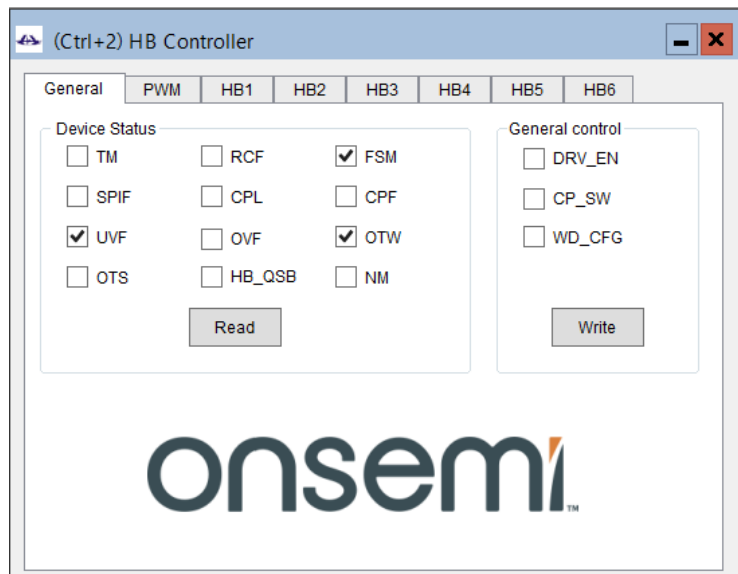

Figure 10. NCV7546 Controller Framework, HB Controller
13. "HB Controller" (Figure 10) contains all the SPI settings grouped per output channel and MCU PWM generators.